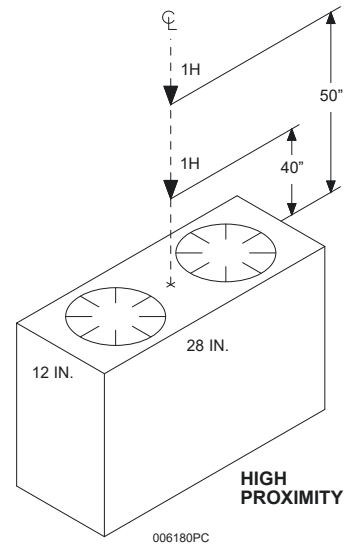

Figure 3-4a
The Model 1H nozzle, Part No. 551029, is used for high proximity two burner range protection. This nozzle is a one (1) flow nozzle. **When using high proximity protection, the range cannot be under a backshelf.** This nozzle must be located on both the front/back centerline and the side/side centerline of the appliance, 40 in. to 50 in. above the cooking surface, and aimed directly down. See **Figure 3-4a**.